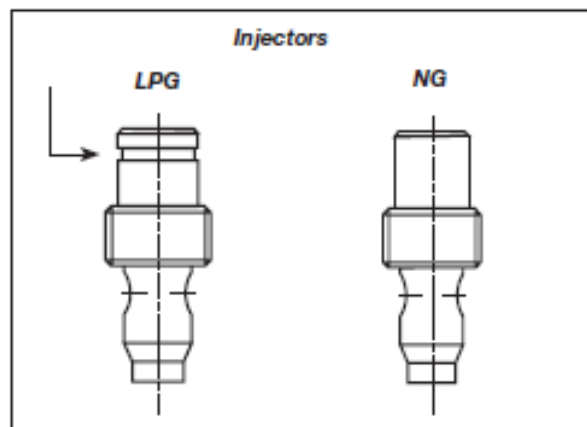

fig. 4
5. Verify that the new injector is proper for the application. The injector size is stamped on the side of the injector near the top. Propane injectors have a groove machined around their circumference near the top, while NG injectors do not have a groove (fig. 4). Refer to the Appliance Manufacturer's instruction sheet for the proper injector size.